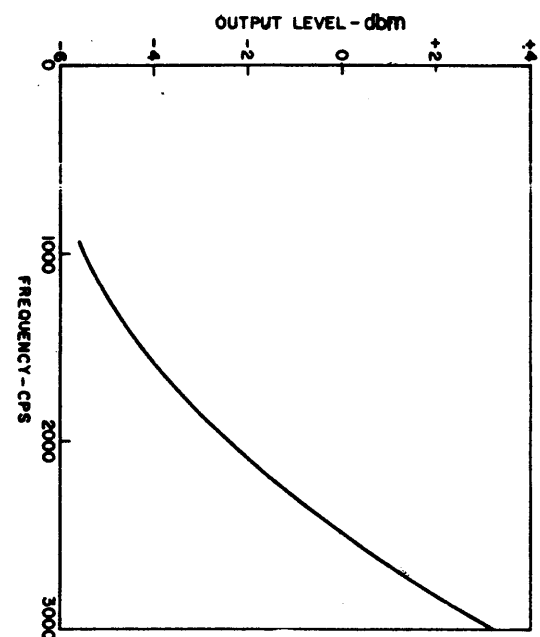

Fig. 1 - Output Level Characteristics
amplitude versus frequency characteristic which is proportional to the loss versus frequency characteristic of the model subscriber loop (see Fig. 1).
- (c) **Output Level:** The output level is as shown in Fig. 1. The level will depend on the wiring loss of the particular office.